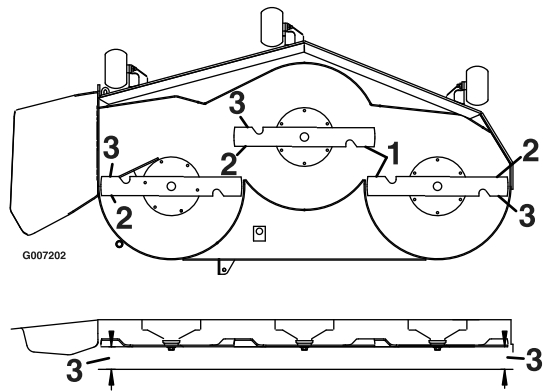

Figure 49
5. Measure between the outside cutting edges and the flat surface (Figure 49). If both measurements are not within 3/16 inch (5 mm), an adjustment is required; continue with this procedure.
9. Carefully rotate the blades side to side (Figure 49).
10. Loosen the leveling adjust locking nuts (item 4) on all four corners so that the deck is sitting securely on all four blocks. Make sure that the deck hangers are all the way down (at the top of the slot) and the deck lift foot lever is pushed back against the stop, then tighten the four leveling adjust locking nuts